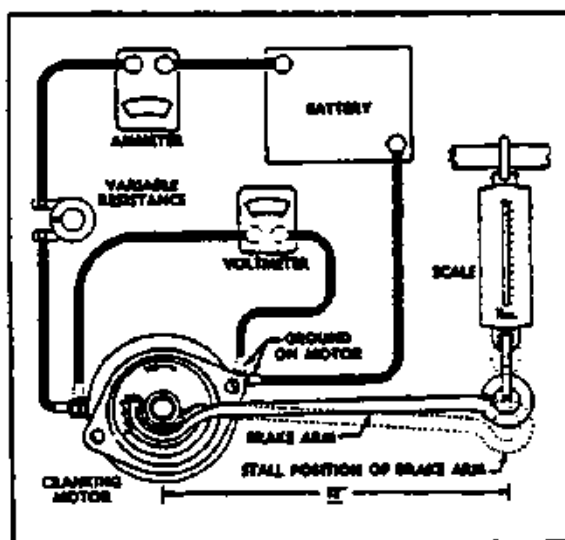

Figure 11-40. Lock-Torque Test Hookup
**11-81. LOCK-TORQUE TEST.** (Refer to Figure 11-40.) The lock-torque test requires the equipment illustrated. A variable resistance with a high current capacity should be used. The starting motor should be securely mounted and a brake arm hooked to the drive pinion. Use extreme caution during this test to make sure the end of the brake arm does not slip off the pinion when current is applied. When specified current is applied, the torque can be computed from the reading on the scale. A one foot brake arm will directly indicate pound-feet. Compare the pound-feet of torque as read on the scale with that listed in paragraph 11-86. If the torque is low, the motor must be disassembled for further tests and repair.